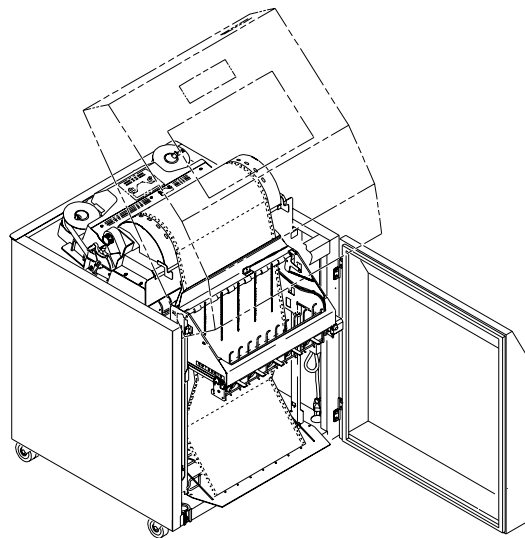

Figure 63. Paper Path in the Power Stacker
1. Press the **FORM FEED** key on the the stacker control panel and hand feed the paper down into the paper throat. Continue to advance the paper until it reaches the wire tent and there are 3 to 5 extra sheets in the stacker. Make sure the paper passes through the throat of the paper stacker. (See Figure 63.)